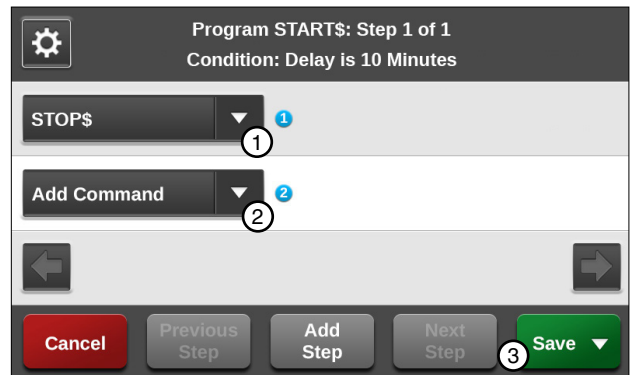

Figure 137-2 1. STOP\$ Command 2. Add Command 3. Save
4. Select the **Choose Command** drop-down menu and choose a different command. Refer to Figure 137-2.